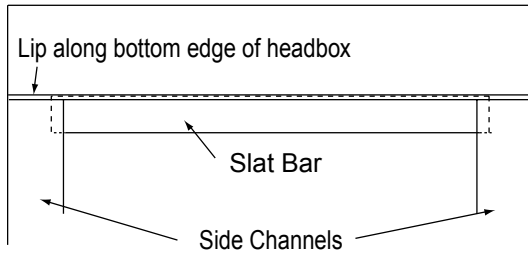
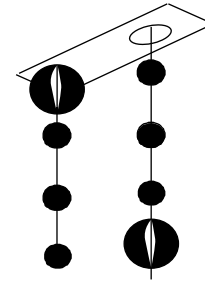

Figure 11
Figure 14
- ⑪ Adjust limit switches so the fabric can be completely drawn or retracted without the slat bar leading edge going beyond the plastic fabric guides located at the upper end of each side channel (see Fig. 11). Limit switches are pre-set, but some field adjustment may be necessary.
- ⑬ Re-attach cover to head box.
- ⑭ For bead-clutch operation, uncouple the chain at the connector so that the chain can be dropped through the two large holes in the bottom of the face cover that line up below the clutch. Hook cover top over top lip on top cover and swing down. Check alignment then snap on at end caps. If this is a pocket installation, re-attach bottom closure to pocket. Slide the length of the bottom cover into the slot on the head box, then push up and snap on at end caps. Attach at end caps using screws removed in step 3. For an electric or spring operated MICRODOOR, proceed to step 15. For a bead clutch operated MICRODOOR, the two ends of the bead chain can be threaded through the holes in the bead chain seal and the seal (removed in step 2) can be attached to the bottom of the cover box. Re-connect the chain and run the MICRODOOR to the fully down position. Using a pair of pliers, attach one of the stop balls to the very top of the exposed front portion of the chain. CAUTION: Be careful not to distort the ball with the pliers. (These balls cannot be easily removed once put on.) This will be the down stop. Next, open the MICRODOOR to the fully open position—the slat bar will be all the way up but still fully visible and not entered into the headbox (see Fig. 11). Attach the other stop ball to the very top part of the back section of the exposed chain. This is the up stop (see Fig. 14).